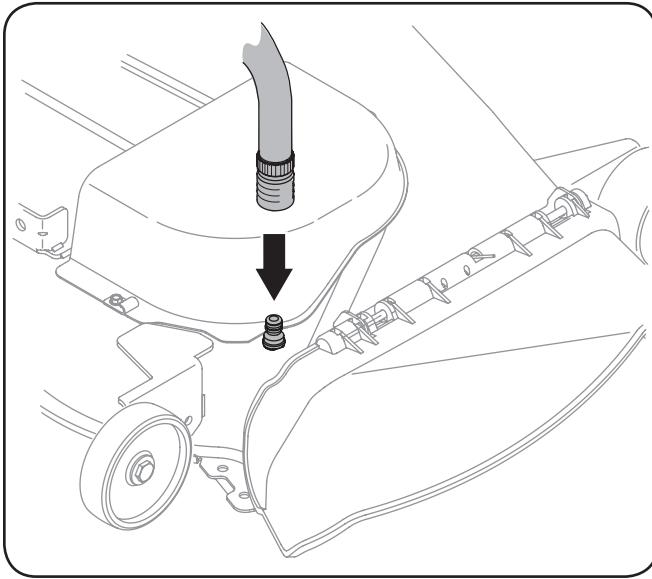

Figure 6-2
3. Attach the hose coupler to the water port on your decks surface. See Figure 6-2.